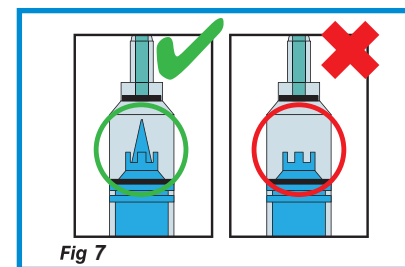

Fig 7
5. Carefully check if there is a retractable mechanism in the front of the plunger before use. Do not use the product if there is no retractable mechanism (Fig 7).